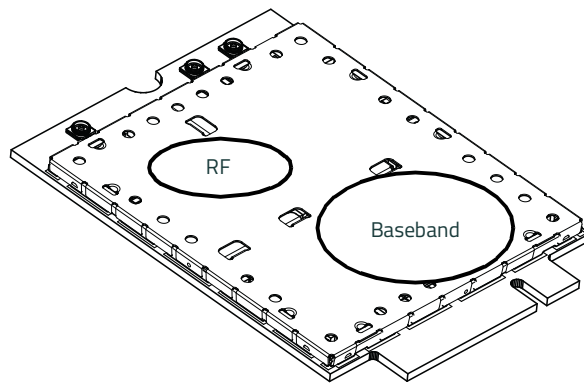

Figure 6-1: Shield Locations (Top View)
- Monitor temperature at all shield locations. Attach thermocouples to the areas indicated in Figure 6-1 on page 48 (RF, Baseband).